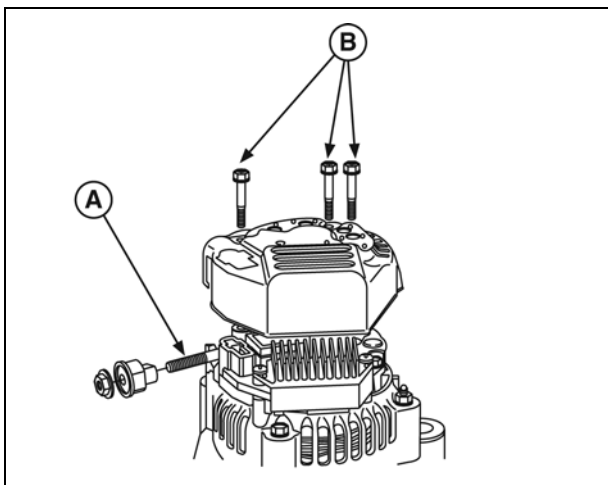

Figure 21
4. Remove two screws and brush retainer assembly (A, Figure 21).